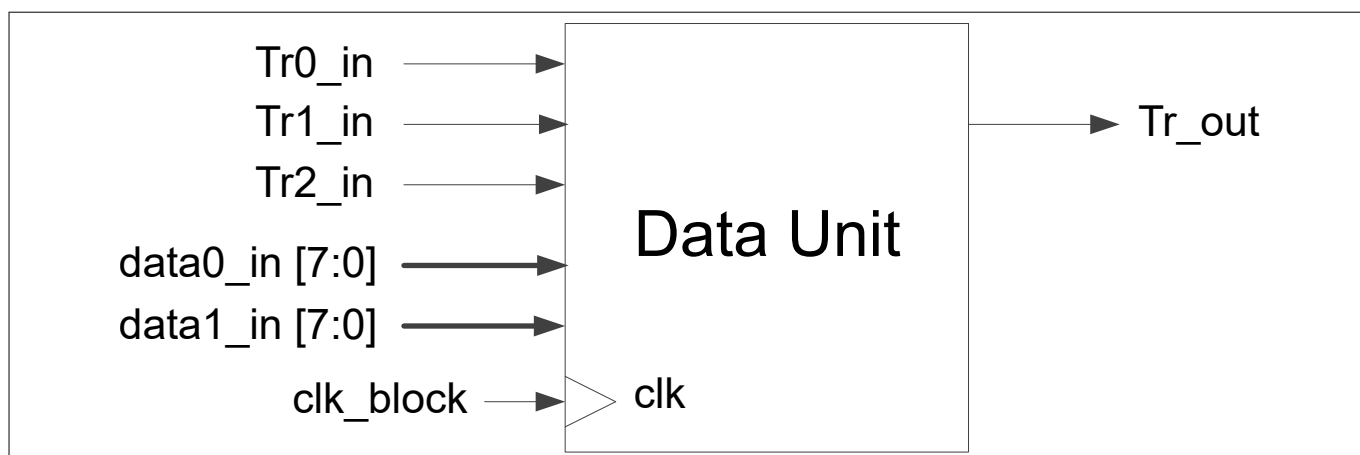

Figure 9 Data Unit Block Diagram
2.4 Data Unit (DU)
Each Smart I/O block includes a data unit (DU) component. DU consists of a simple 8-bit data path. It is capable of performing simple increment, decrement, increment/decrement, shift, and AND/OR operations. DU can generate a programmable output (Tr_out) signal based on two 8-bit data inputs that DATA0 (data0_in [7:0]) and DATA1 (data1_in [7:0]). The internal state is captured in flip-flops. The DU behavior can be controlled by up to three input signals (Tr0_in, Tr1_in, Tr2_in). Figure 9 shows the basic block diagram of Data Unit.